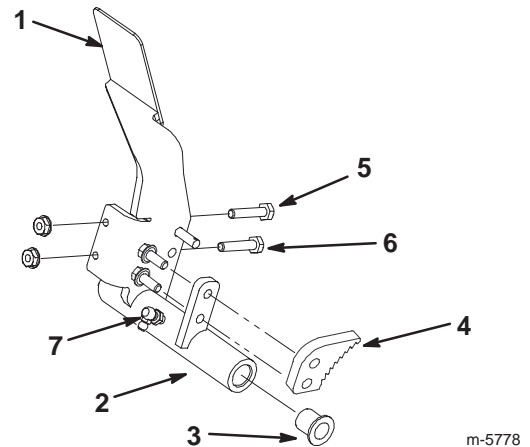

Figure 2
6. Remove the brake pawl from the old accelerator pedal (Fig. 2).
7. Install the brake pawl on the new accelerator pedal (Fig. 2). Use red Loctite 272 or equivalent on the bolts.
8. Measure the height of the stop bolt on the old accelerator pedal (from the back of the pedal to the top of the bolt head) and then remove it and the start switch bolt, discarding the rest of the accelerator pedal assembly (Fig. 2).
9. Install the stop bolt and nut on the new accelerator pedal, adjusting it to the same height it was set to on the old pedal (Fig. 2), but do not tighten the jam nut.
10. Loosely install the start switch bolt (Fig. 2), but do not tighten the jam nut.
11. Install a new grease fitting into the accelerator pedal mounting tube (Fig. 2).
12. Install 2 bushings into the ends of the mounting tube of the new accelerator pedal (Fig. 2).